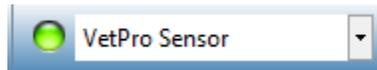

Figure 15: Successful VetPro® Sensor selection
- Once VetPro Sensor is selected you will see a green LED (Figure 15). This verifies the sensor is now connected to the computer.